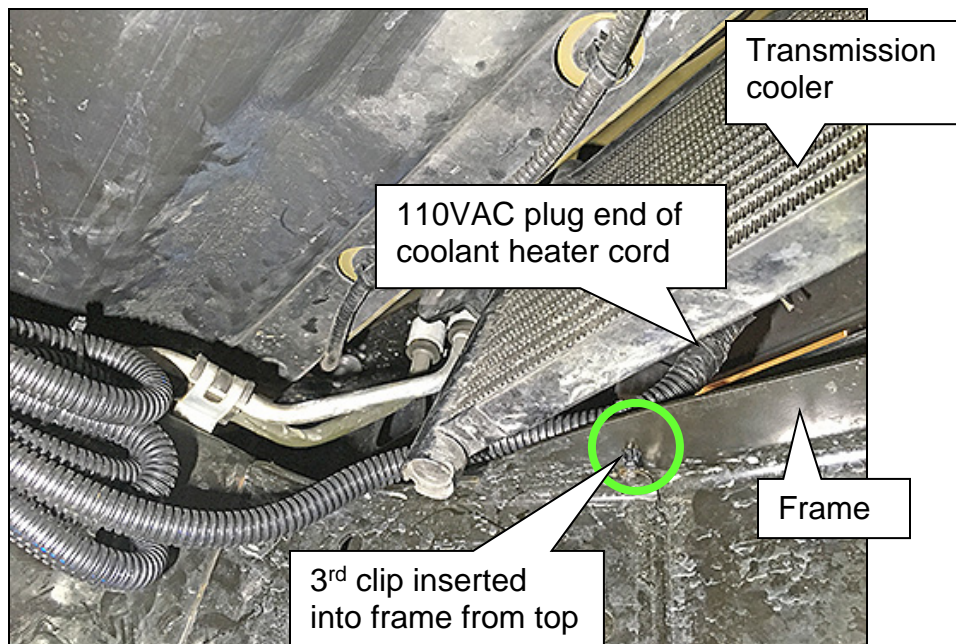

Figure 10
7. Route the 110VAC plug end of the cord over the top of the frame in front of the transmission cooler (Figures 10).
- Insert from top into the pre-existing hole (Figure 10), with clip relocated in step 1d.
- NOTE:** Figure 10 shows the cord clip inserted through frame.